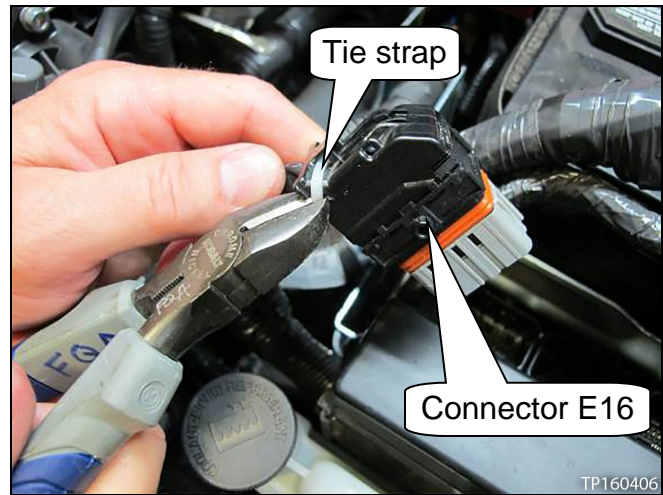

Figure 4
5. Using a suitable tool, cut and remove the tie strap from connector E16 (see Figure 4).